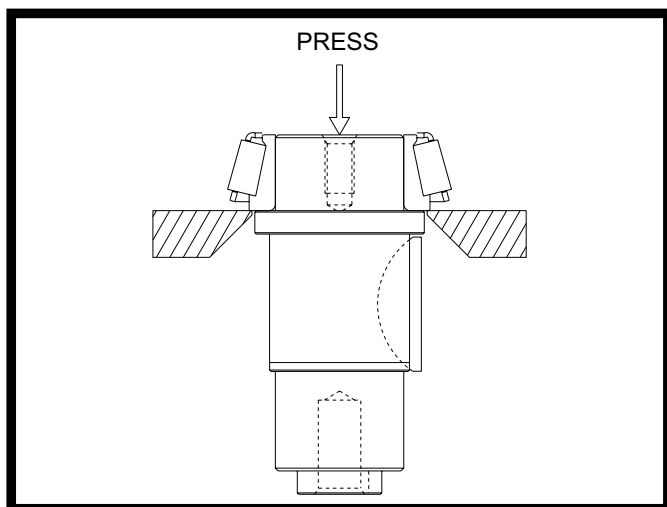

Fig 17
1. To remove the bearing cone assembly, support under the cone with a bearing separator and press the shaft through the cone. See Figure 17.